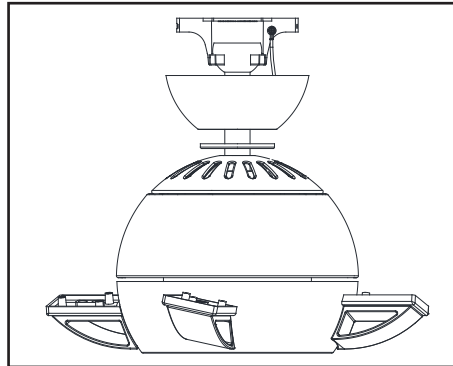

Figure 9
4. Carefully lift the fan assembly up to the ceiling mounting plate. Make sure the tab on the mounting plate is properly seated in the groove in the hanger ball. (Figure 9)